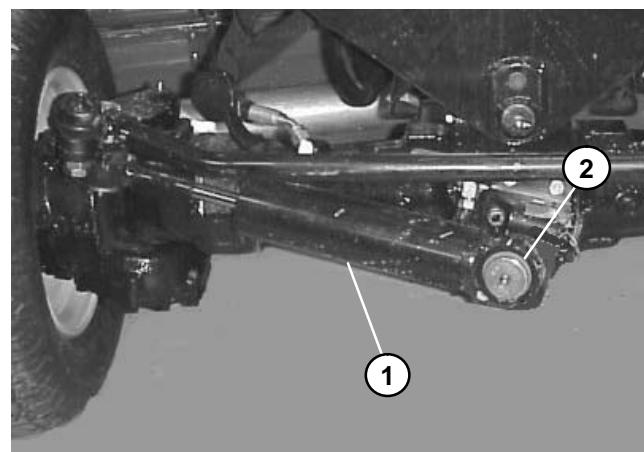

Figure 19
A. (4WD Unit Serial No. 200000001 & Up) Remove the retaining ring securing the rod end of the cylinder to the bevel gear case (Fig. 19).